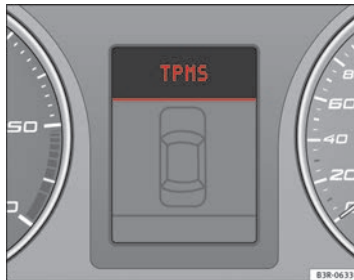
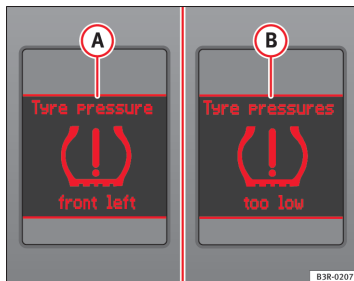

Fig. 45 Display: system fault
Fig. 46 Display: warning message
The yellow warning (L) lamp remains on if the system is faulty or if the pressure is too low in at least one tyre. In the event of a system fault, the letters TPMS are displayed in the centre of the instrument panel ⇒ Fig. 45. If the tyre pressure drops rapidly, message (A) ⇒ Fig. 46 will be shown on the central display of the instrument panel. If the pressure loss is more gradual, message (B) ⇒ Fig. 46 will be shown on the central display of the instrument panel. This message does not show the tyre affected. Should any of these warnings be displayed: